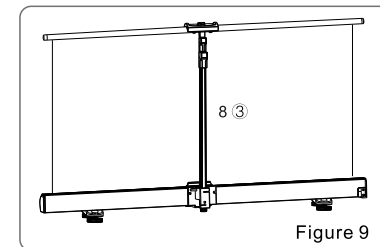

Figure 9
1. Push the uphold locker using one hand simultaneously pull down the uphold bar(8 ①) with another hand. Repeat the same action to low down the uphold bar (8 ②). (Figure 9)